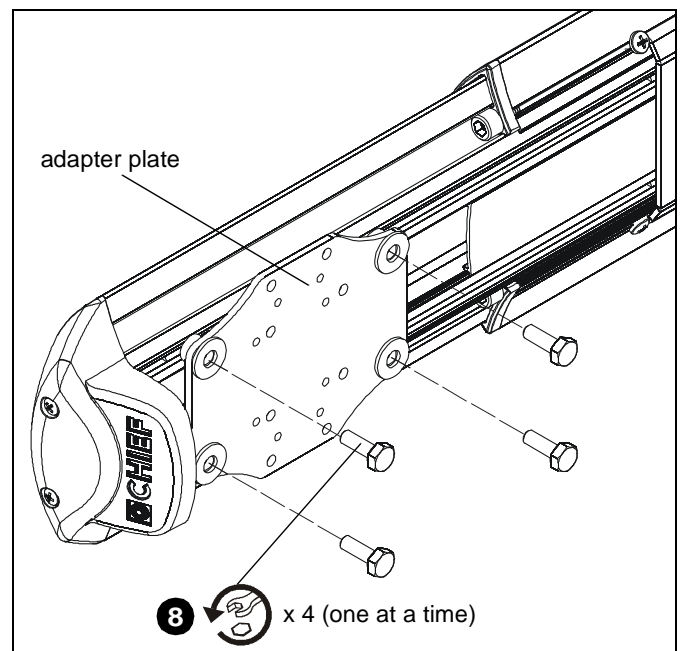

Figure 46
8. Remove one of four bolts from adapter plate. (See Figure 46)